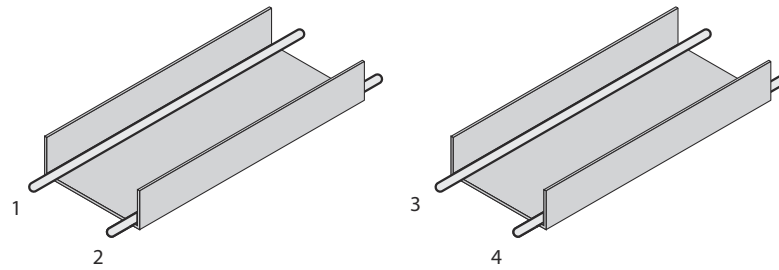
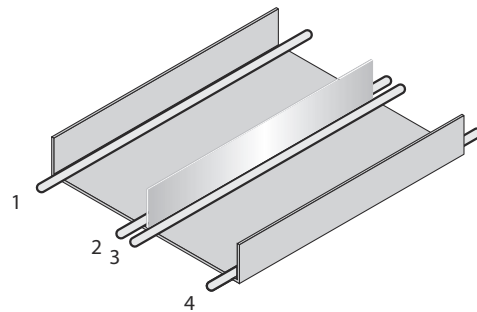

Figure 8: Ideal laying - Place cables in different cable channels
Figure 9: Alternative laying - Separate cables with metallic separators
- ▶ Cables in groups 1, 2 and 3, 4 must be routed in different cable channels or metallic separators must be used, see figure 8 and see figure 9. This applies particularly where cables of devices with a high level of radiated emission, such as frequency converters, are laid parallel to sensor cables.